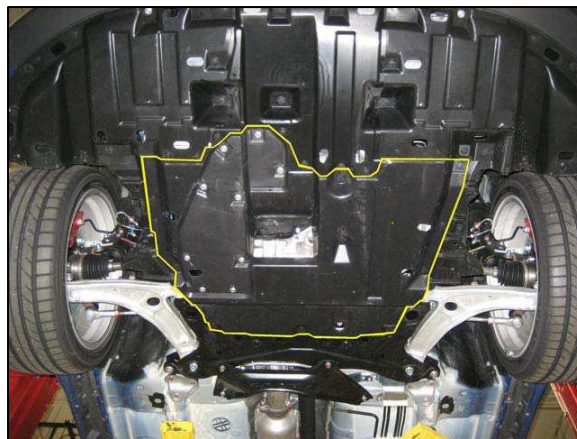

Fig. 2
2. Locate the plastic engine compartment covers under the vehicle. Remove the rear-most center cover, shown outlined in yellow in *Fig. 2*. The cover is secured by round plastic clips. Use a prying tool or a flat blade screwdriver to pop out the center section of the clip, and then pull the clip out by hand (clips, flat blade screwdriver).